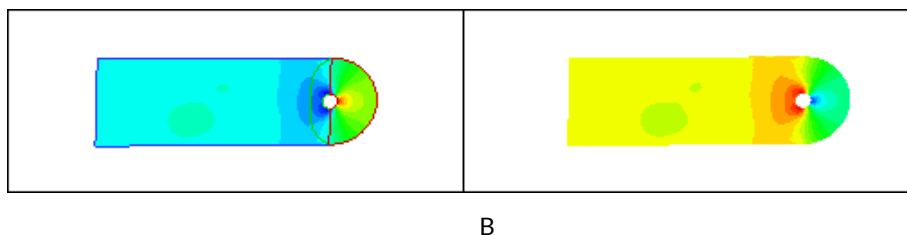

Figure 9-2. A) Flooded contour plot with default settings. B) Flooded contour plot with a reversed colormap.
- **Reversed Color Map** - You can reverse the color map by toggling on "Reverse". Two plots, one with the color map going in the default direction and one with the color map reversed, are shown in Figure 9-2.